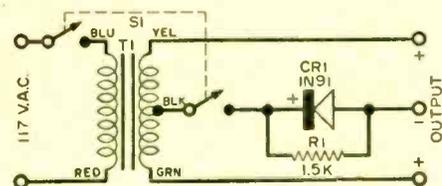
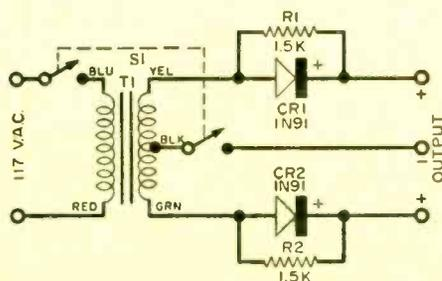

Fig. 1. Circuit for rejuvenating one dry cell.
Fig. 2. Circuit for rejuvenating two dry cells of the same or different size and type simultaneously. It will also accommodate single cells.
This model of the rejuvenator is the circuit of Fig. 1 assembled in the plastic box which originally contained the transistor audio transformer.
The rejuvenator shown in the photo is the assembled circuit of Fig. 1. Appearance of the setup for Fig. 2 would be identical except for the additional rectifier and resistor. Either unit may be assembled in the handy little plastic box in which the transformer, *T1*, is purchased.
Don't try to rejuvenate two cells simultaneously with the circuit of Fig. 1. It won't work. The two positive terminals are provided on this unit merely for convenience. If you want to charge two cells at once, use the circuit of Fig. 2.
- * CR2 and R2 are required only for the circuit of Fig. 2